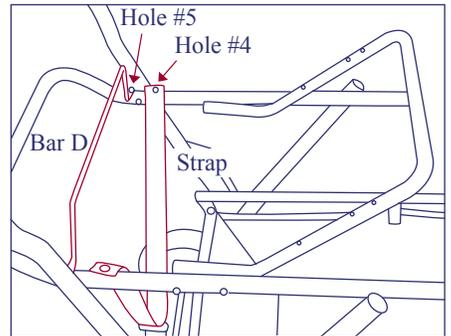

Fig. 2
2. Attach Crossbar D, removed in the Front Seat step 1 above, to the Double Snap-N-Go® frame using the two holes labeled #5. Use the two screws that you removed in step 1. Please see figure 2.
3. Attach both Car Seat Straps to the Double Snap-N-Go® frame using the two holes labeled #4. Use the two screws that you removed in step 1. Please see figure 2.